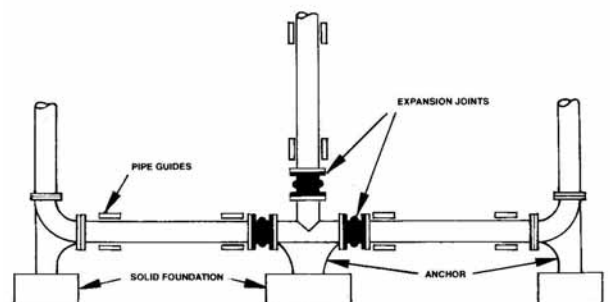

Figure 2
A.3. Branch Connection Anchors: Figure 2 is another illustration of the proper anchoring that should be provided in a line with a branch connection. The anchor shown at the Tee and elbow connections must be designed to withstand both the thrust